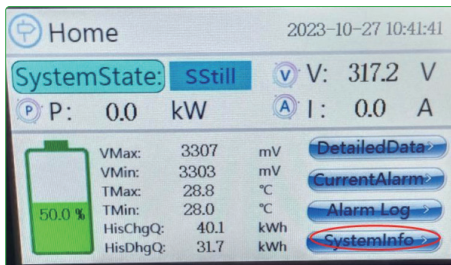

Figure 1
- Log in to the CAN box driver website <https://www.basenpower.com/Support/DOWNLOAD/> (Figure1)
- Download the attachment (Figure 1),